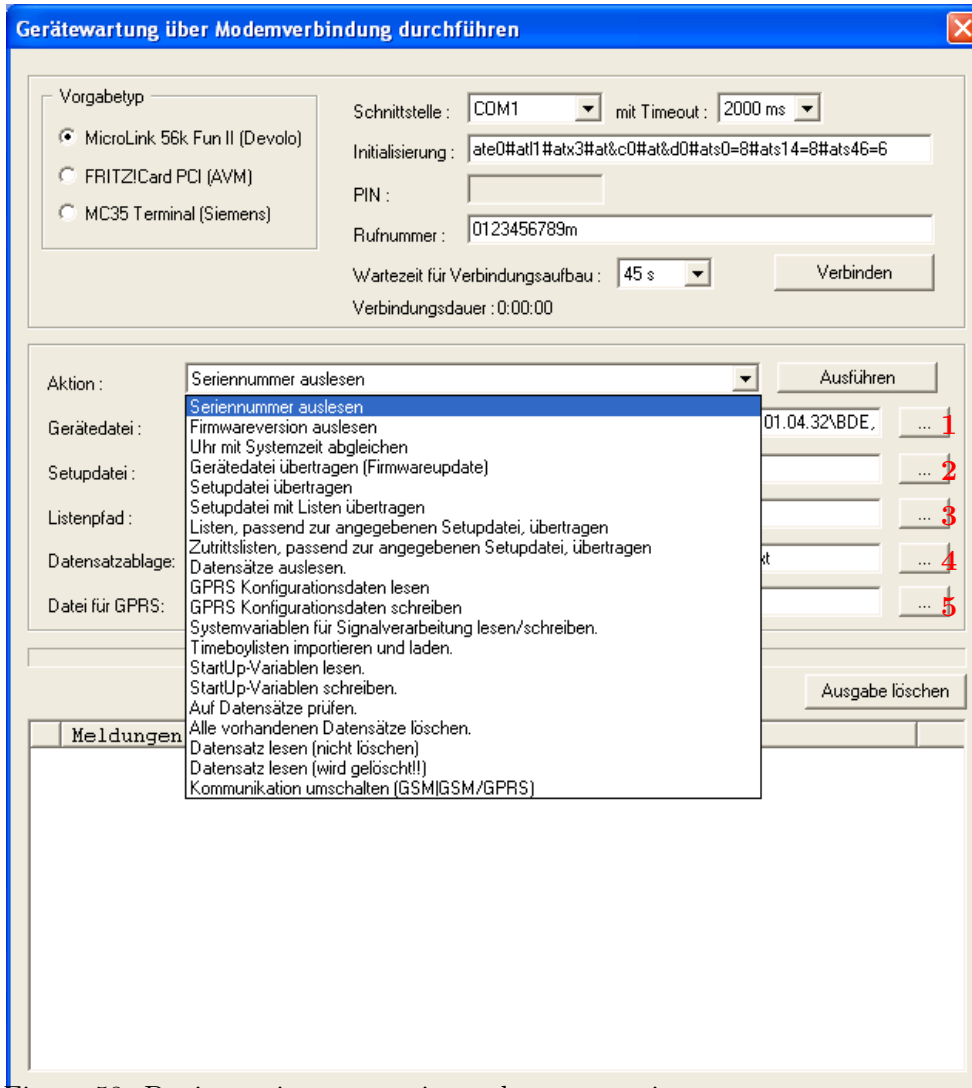

Figure 58: Device maintenance via modem connection
- ▶ Transmit device file (firmware update) - Via the button **1** in figure 58 a dialogue opens where you can select the device file with the extension ".hex". When you have marked the file, you can take it over via the button "Open".
- ▶ Transmit setup file - Via the button **2** in figure 58 a dialogue opens where you can select the setup file with the extension ".aes". When you have marked the file, you can take it over via the button "Open".
- ▶ Transmit setup file with lists - Via the button **3** in figure 58 a dialogue opens where you can define the folder (path) that contains the list files.